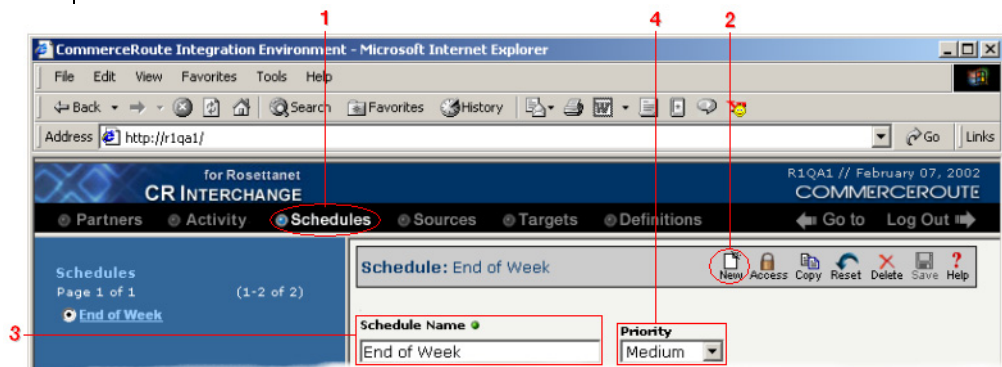

Figure 6-1. Start to define your new schedule by navigating to the **Schedules** page and clicking the **New** button in the toolbar.
- ❹ (Optional) If you want to make this schedule a high-priority or low priority, you can change the value in the **Priority** drop-down menu (see Figure 6-1 below).